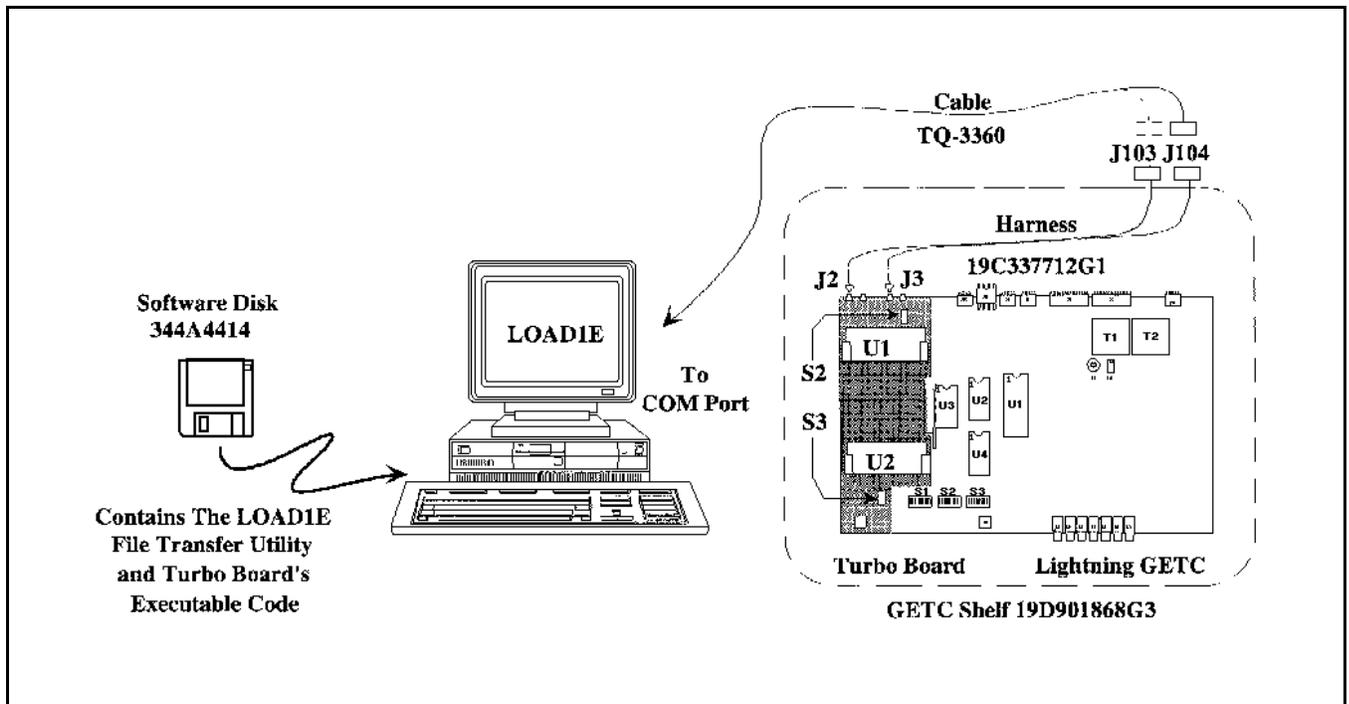

Figure 8 - Turbo Board Programming
1. Connect the TQ-3360 programming cable from the PC's serial port connector to the GETC Shelf connector J104 (see Figure 8). (A DB-25 to DB-9 adapter may be needed.)